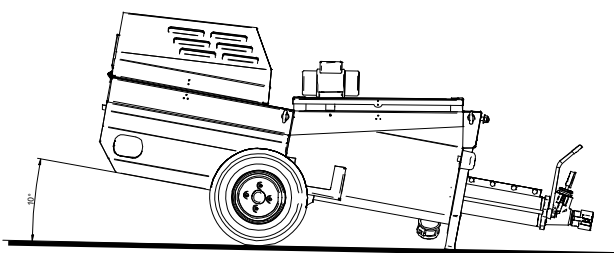

FIG 5
8. TRANSPORTABILITY (fig.3). LIFTING (fig.4). TOWABILITY (optional fig.5)
The machine must always be placed on a flat surface: a slight downward inclination of the cam pump will aid outlet of the material (fig 5).
To stop the machine in the event of an emergency, press the red emergency button (ref. 9). To isolate the machine, turn the main switch to 0 and remove the electric power plug from the socket (ref. 1, fig. 5) all moving parts are shut down.